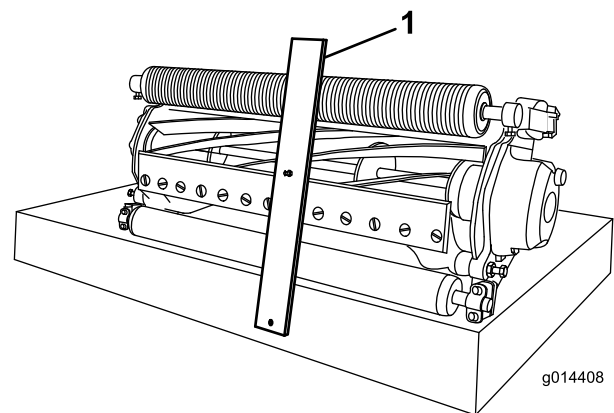

Figure 10
2. Hook the bolt head of the height-of-cut gauge onto the right side of the cutting edge of the bedknife and rest the rear end of the bar onto the rear of the roller (Figure 10).